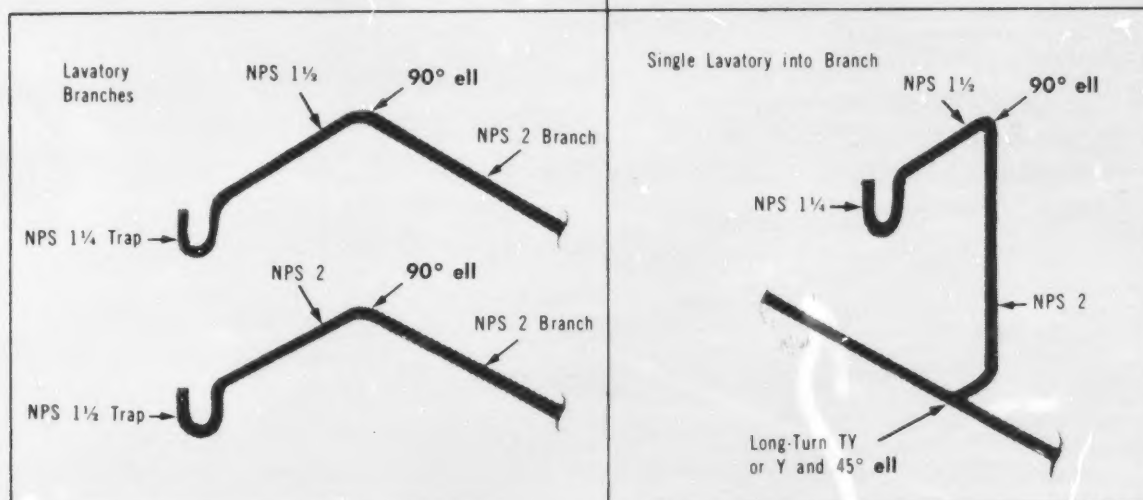

Figure 37-12. Lavatory Trap Arms and Branches
31. A lavatory with an NPS 1½ trap should have an NPS 1½ trap arm, and one with an NPS 1½ trap an NPS 2 trap arm. In the usual case of an NPS 1¼ chrome trap, this increase in size can be carried out at the wall very conveniently by using any of the three ells shown at the bottom of Figure 37-12. Downstream of the ell the branch size should be NPS 2 whether horizontal or vertical.
32. A 90° DWV ell can be used for horizontal and vertical changes in direction of the branch of one lavatory, but two 45° DWV ells should be used if there are two lavatories or more than two 90° changes in direction. Note the details of some typical configurations in Figures 37-12 and 37-13.